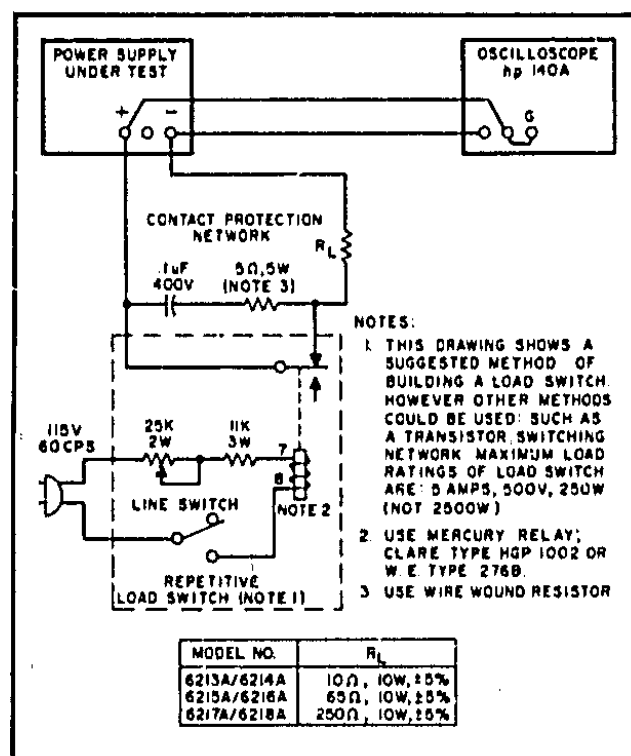

Figure 5-7. Transient Recovery Time, Test Setup
5-37 A mercury-wetted relay, as connected in the load switching circuit of Figure 5-7 should be used for loading and unloading the supply. When this load switch is connected to a 60Hz AC input, the mercury-wetted relay will open and close 60 times per second. Adjustment of the 25K control permits adjustment of the duty cycle of the load current switching and reduction in jitter of the oscilloscope display.
5-38 The maximum load ratings listed in Figure 5-7 must be observed in order to preserve the mercury-wetted relay contacts. Switching of larger load currents can be accomplished with mercury pool relays; with this technique fast rise times can still be obtained, but the large inertia of mercury pool relays limits the maximum repetition rate of load
- a. Connect test setup shown in Figure 5-7.